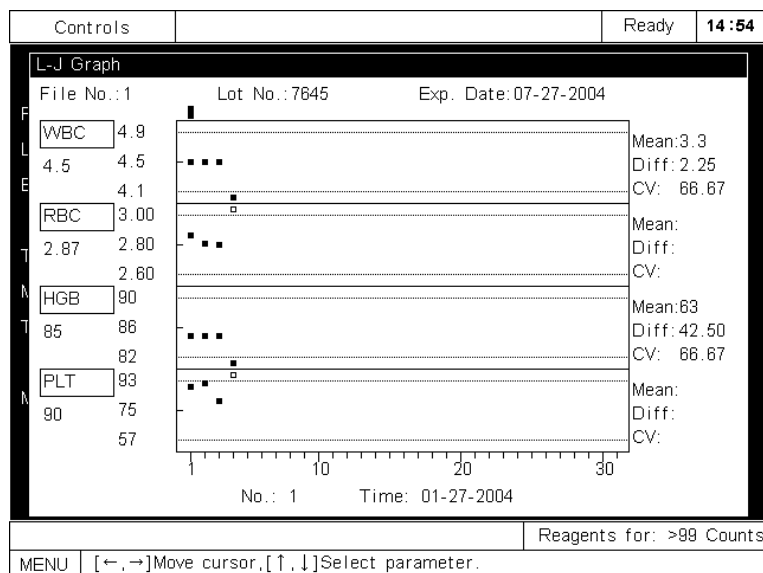
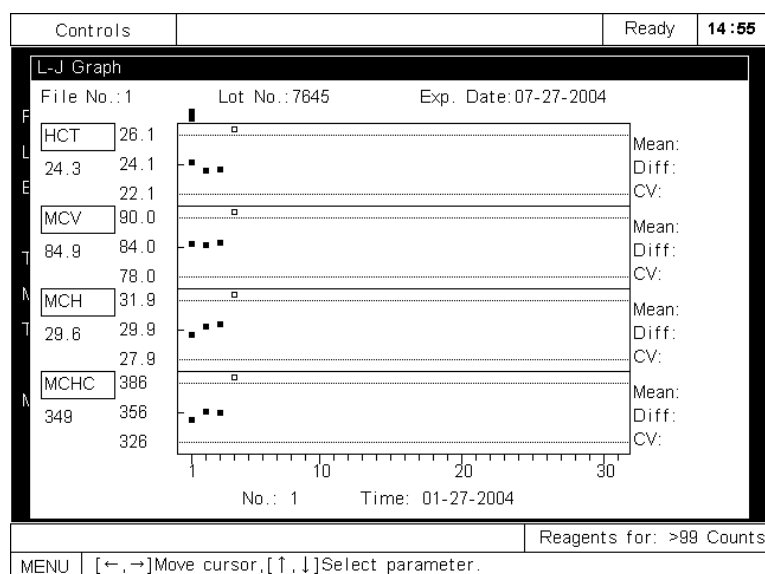

Figure 4-9 L-J Graph Screen (1)
Figure 4-11 L-J Graph Screen (3)
At the **Controls** screen, press [F4] to enter the **L-J Graph** screen, as Figure 4-9 shows.
The 12 parameters are divided into 3 groups for display, one group for one screen, as Figure 4-9 – Figure 4-11 shows. You can press [↑] or [↓] to switch among the screens. At every **L-J Graph** screen, you can press [←] or [→] to view the results (displayed below the parameter
3. For every parameter, the upper dash line of its *L-J graph* represents the upper limit of the expected range of the analysis result. The corresponding value (10.5 in case of the WBC in Figure 4-9) equals **Mean + Range** and is displayed on the left of the line.
4. For every parameter, the lower dash line of its L-J graph represents the lower limit of the expected range of the analysis result. The corresponding value (9.5 in case of the WBC in Figure 4-9) equals **Mean - Range** is displayed on the left of the line.
5. For every parameter, its expected result (10.0 in case of the WBC in Figure 4-9) is displayed between the values of the upper dash line and of the lower dash line.